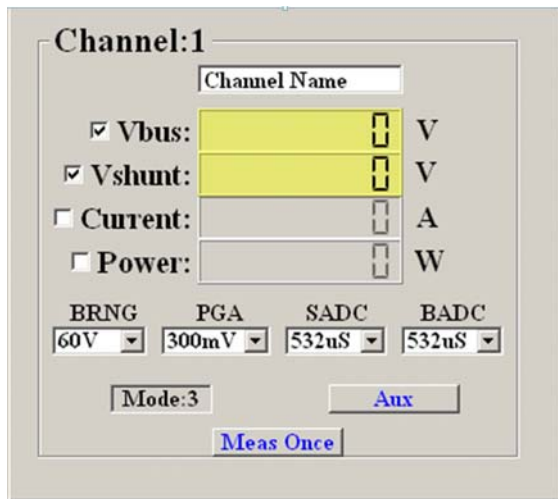

FIGURE 4. SINGLE DPM INTERFACE
- To start collecting data, press the “**Start Data Collecting**” button located to the left of the “Connect to Device” button at the bottom of the screen. Once pressed, the color of the text and verbiage of the button will change to “**Stop Data Collecting**”. The default state of the software reads each DPM for shunt and bus voltages. To change the read settings of the DPM, toggle the check box/label next to each numerical read out. The backlight of the display will toggle between yellow and gray. A backlight of yellow means a channel is enabled. A change in the functionality of the DPM will change the mode value for the respective channel. The mode of each DPM is displayed in the lower left hand corner of each channel's display. Figure 4 represents a zoomed in view of a single DPM interface.
- The settings of all channels should be finalized prior to invoking the Save Data feature. The user has the option of uniquely naming each channel and having the channel name be passed to the column name of each respective data file. Changing the field named “Channel Name” in Figure 4 will change the name of the column data.